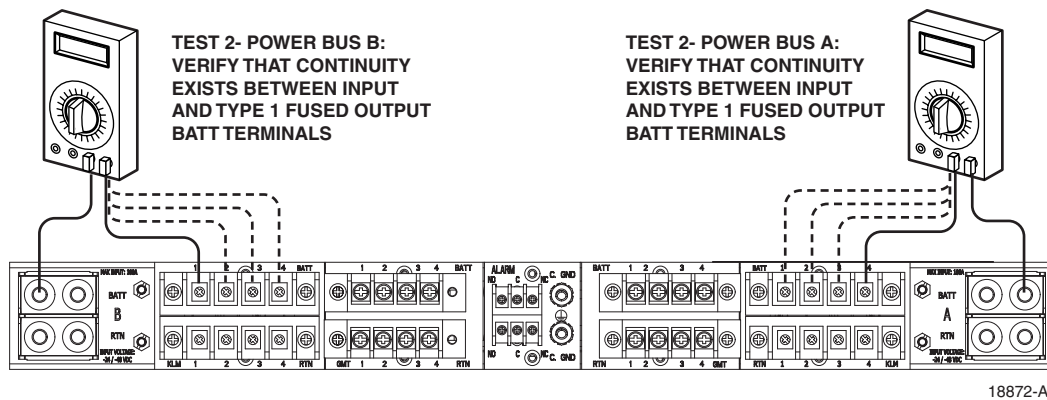
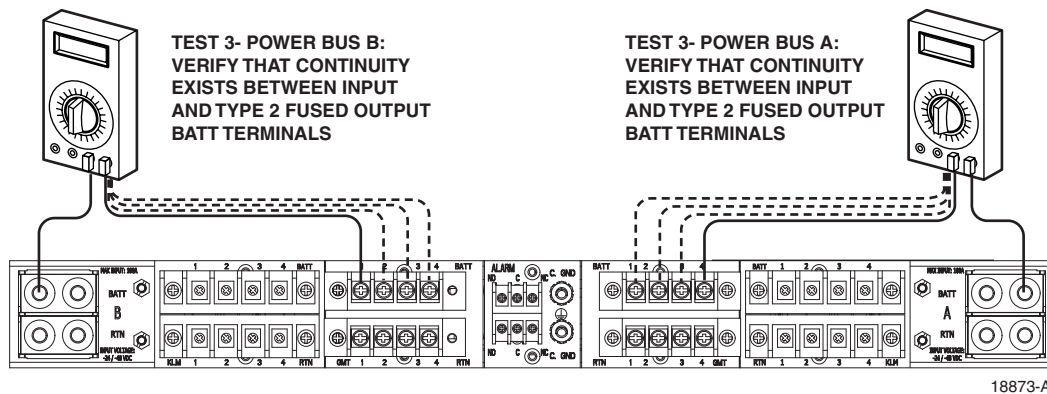

Figure 8. Test 2: Input Battery to Output Battery (Type 1 Fuse)
Figure 9. Test 2: Input Battery to Output Battery (Type 2 Fuse)
**Test 2: Input Battery to Output Battery**—Perform this test for each fuse position and fuse type (refer to Figure 8 and Figure 9).